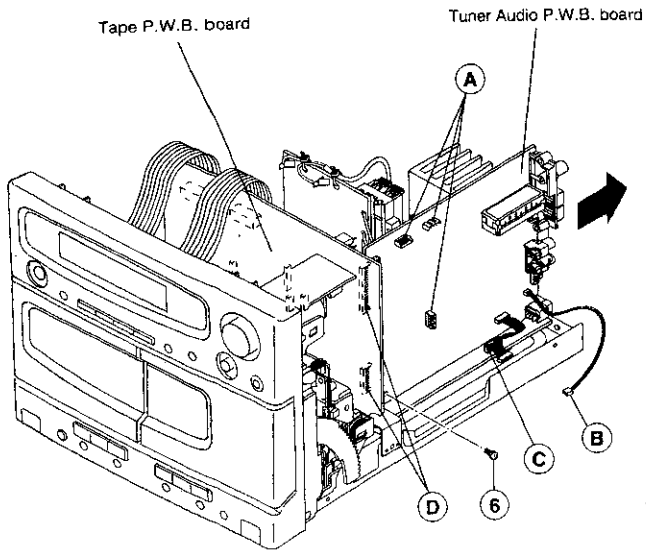

Fig. 4
(1) Remove 2 screws ⑤ from (side of) front panel. Then remove the brackets from the front panel by releasing the claws that hold the brackets to the front panel together.
4. **Removal of Tuner Audio P.W.B. Board (Fig. 4)**